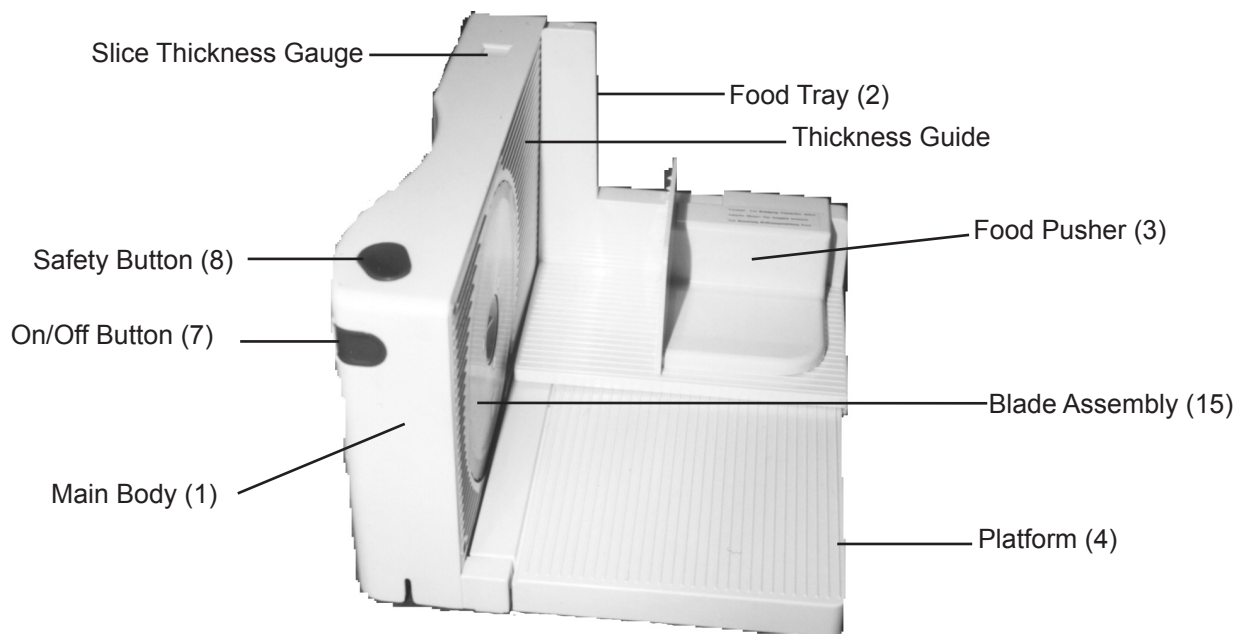

Figure 1 - Set-Up
Unfold the Platform (4) from the Main Body (1). Slide the Food Pusher (3) onto the Food Tray (2). The arm of the Food Pusher (3) fits over the fence on the Food Tray- see Figure 1. The Food Tray with the attached Food Pusher (3) slides into the slot on the Platform (4).